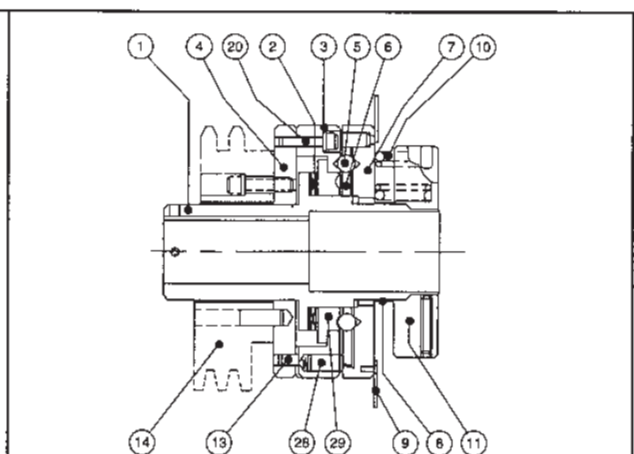

Fig. 4 Model 402
2. Mounting Sprocket or Sheave on Models 402 and 409 (see Fig. 4, 5A and 5B).